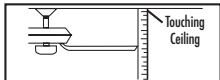
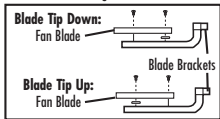

Figure 1
Figure 2
4. Most fan wobble problems are caused when blade levels are unequal. Check this level by selecting a point on the ceiling above the tip of one of the blades. Measure this distance as shown in Figure 1. Keeping measure within 3mm, rotate the fan until the next blade is positioned for measurement. Repeat for each blade. If all blade levels are not equal, you can adjust blade levels by the following procedure. To adjust a blade tip down, insert a washer (not supplied) between the blade and blade holder at the screw closest to the motor (Figure 2). To adjust a blade tip up, insert washer (not supplied) between the blade and blade holder at the two screws farthest from the motor (Figure 2).